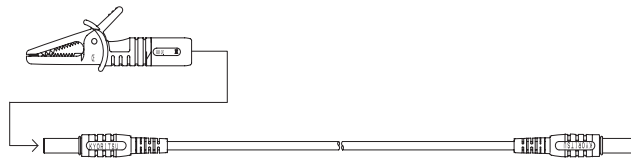

Fig. 4
- (1) Unscrew and remove ① shown in Fig.4 and remove the Tip pin.
- (2) Install the Long pin and tighten ①.